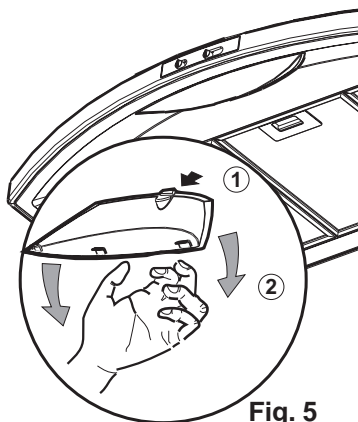

Fig. 5
- Remove the lamp cover. **Fig. 5.**